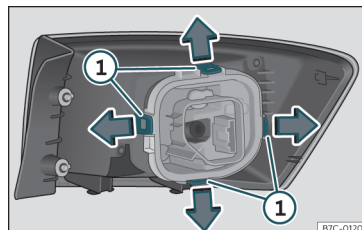

Fig. 50 Retaining tabs on reverse side of tail light.
- Disassemble the bulb holder unlocking the securing tabs»» **Fig. 50** ①.